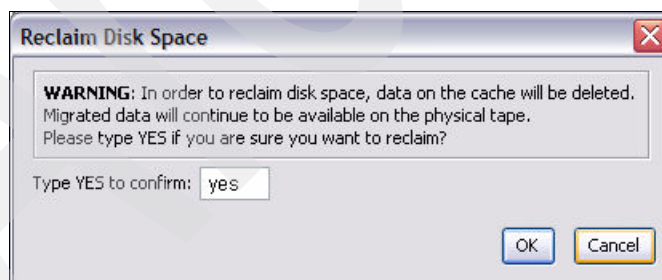

Figure 12-54 Reclamation confirmation
2. To confirm the disk space reclamation, type **yes** and click **OK** on the Reclamation confirmation window shown in Figure 12-54.